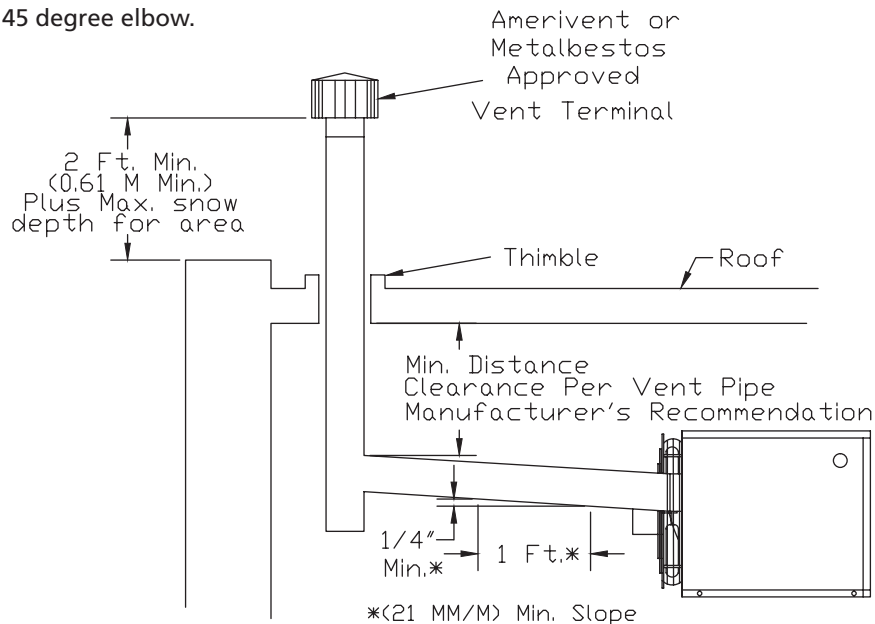

Figure 8 – Vertically Vented, Category III
VERTICALLY VENTED UNIT HEATERS (CATEGORY III) FIGURES 8, 8B & 9B
4. The top of the vent pipe should extend at least 2 feet (0.61m) above the highest point on the roof. Consideration should be made for anticipated snow depth. Install an Amerivent Americap or Selkirk vent cap over the vent opening. Slope horizontal runs upward from the gas unit heater at least 1/4-inch per foot (21mm/m) minimum. Horizontal portions of the venting system shall be supported at minimum intervals of 4 feet (1.2m) (in Canada, support at 3 feet (1m) minimum intervals). (See Figures 8, 8B and 9B)